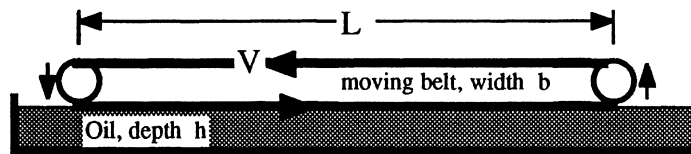

Fig. P1.52
**1.52** The belt in Fig. P1.52 moves at steady velocity  $V$  and skims the top of a tank of oil of viscosity  $\mu$ . Assuming a linear velocity profile, develop a simple formula for the belt-drive power  $P$  required as a function of  $(h, L, V, B, \mu)$ . Neglect air drag. What power  $P$  in watts is required if the belt moves at 2.5 m/s over SAE 30W oil at 20°C, with  $L = 2$  m,  $b = 60$  cm, and  $h = 3$  cm?